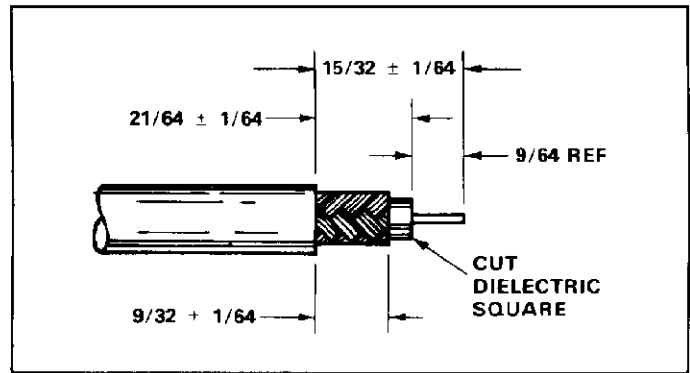
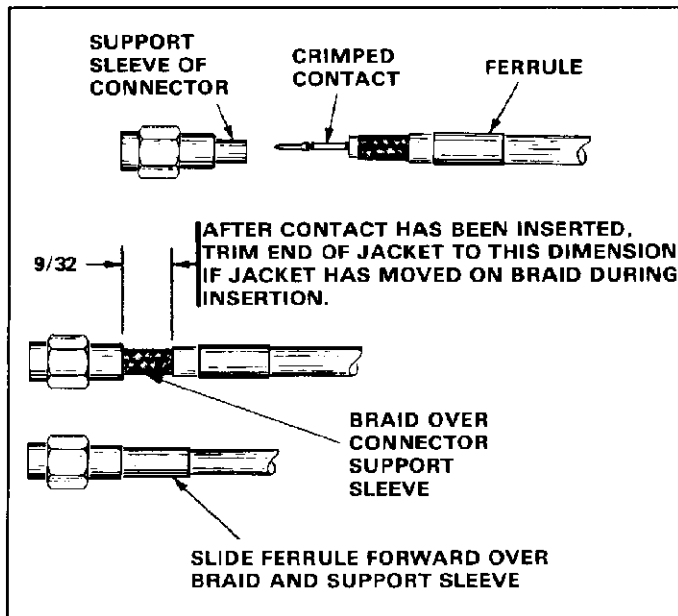

Fig. 3
Fig. 2
1. Slide ferrule onto cable as shown in Figure 2. Then strip the cable according to the dimensions shown in Figure 3.